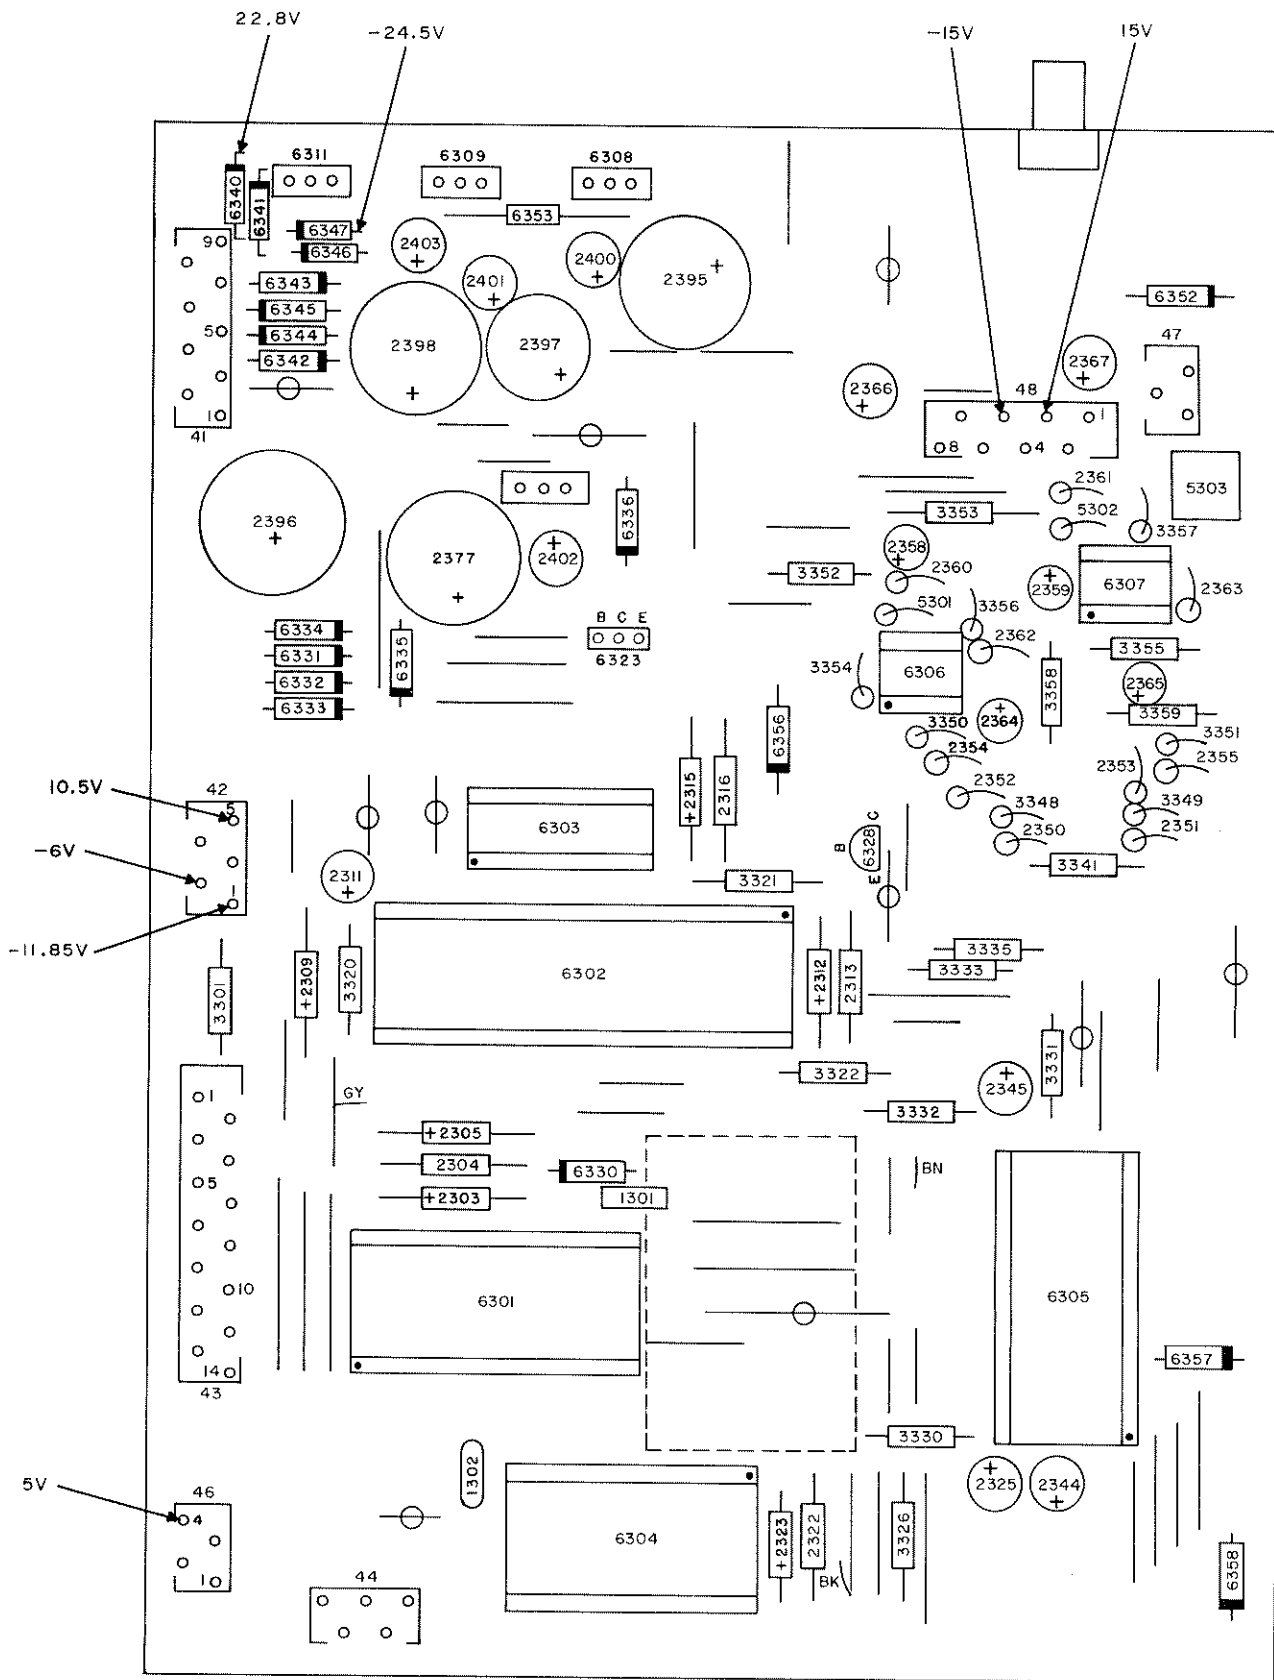

Fig. 12. Decoder and Power Supply PC board measurement locations.
1. POWER SUPPLY VOLTAGE TEST. Refer to figures 12 and 13 for voltages and the measurement locations.